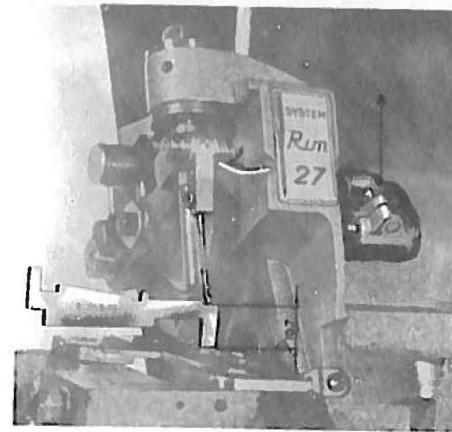

fig. 3
### 3) SETTING HEIGHT OF NEEDLE BAR (fig. 3)
-if adjustment is necessary, loosen screw A (fig.3) and move needle bar clamp up or down using needle gauge N. S 1552.00 as indicated in fig. 3 to obtain the correct setting. Retighten screw A.